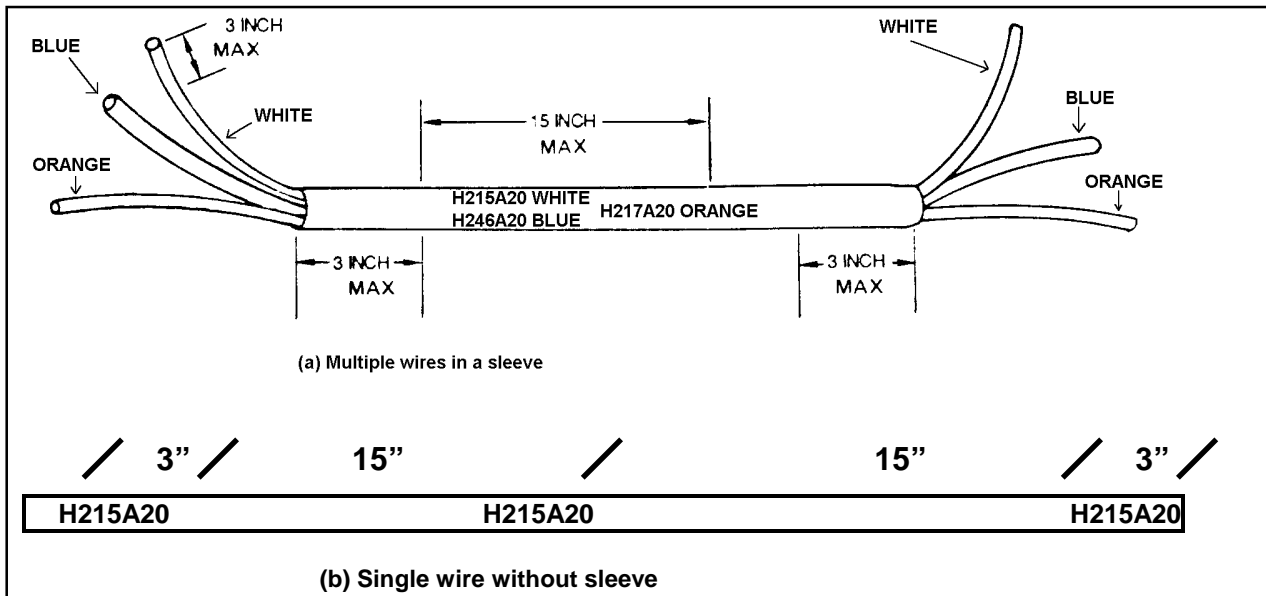

FIGURE 11-23. Spacing of printed identification marks (direct marking).
**a. Direct marking** is accomplished by printing the cable's outer covering. (See figure 11-23.)